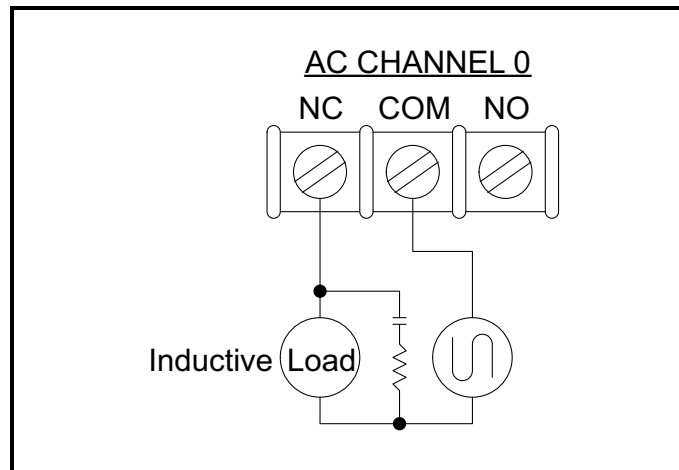

Figure 30: AC Voltage Connection
**AC Voltage --Inductive Load.** Place a shunt across the load at the source of the noise, but never across the terminals of the contact output card. See Figure 30.
**Circuit Configurations:** The F/P/S/T card is configured at the factory for one of the five types of circuit configurations listed in Appendix A, *Specifications*. Configurations are shown in Figure 30 on page 36. The output of F/P/S/T is normalized to provide a signal of close to +5 volts.